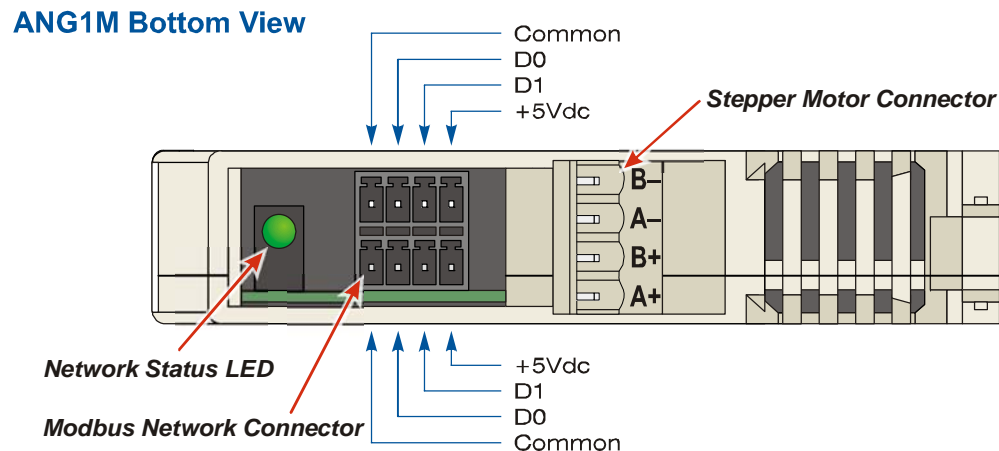

Figure 1.3 Modbus Network and Motor Connector Locations
The Network Status LED shown in figure 1.3 indicate the health of the serial connection between the ANG1M and its host.
Figure 1.3 also shows the location of the Stepper Motor Connector. The mate to this connector is not included with the ANG1(M) and is available from AMCI under the part number MS-4M. It is also available from Phoenix Contact under their part number 187 80 37.